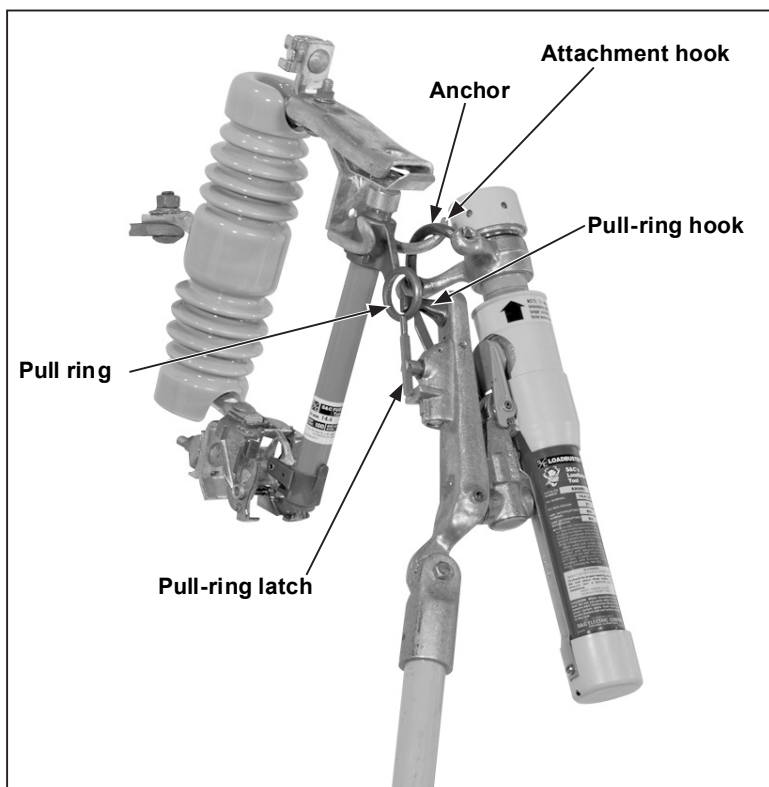

Figure 4. Loadbuster connected to HDF Series Fuse Cutout, Outdoor Distribution.
Step 1 Reach across in front of the fuse cutout with Loadbuster and hook the anchor, located at the top of Loadbuster, over the attachment hook on the far side of the fuse cutout. See Figure 4.
Step 2 Swing Loadbuster toward the fuse tube and pass the Loadbuster pull-ring hook through the pull ring on the fuse tube. The pull-ring latch will deflect and upon complete entry of the pull ring, will spring back, locking Loadbuster to the pull ring. Loadbuster is now connected across the upper contact of the fuse cutout. See Figure 4.